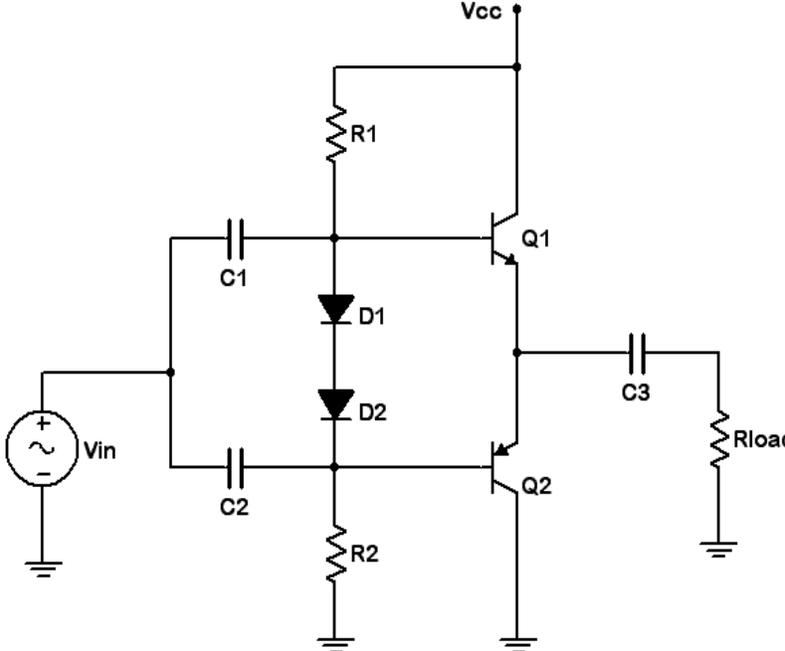
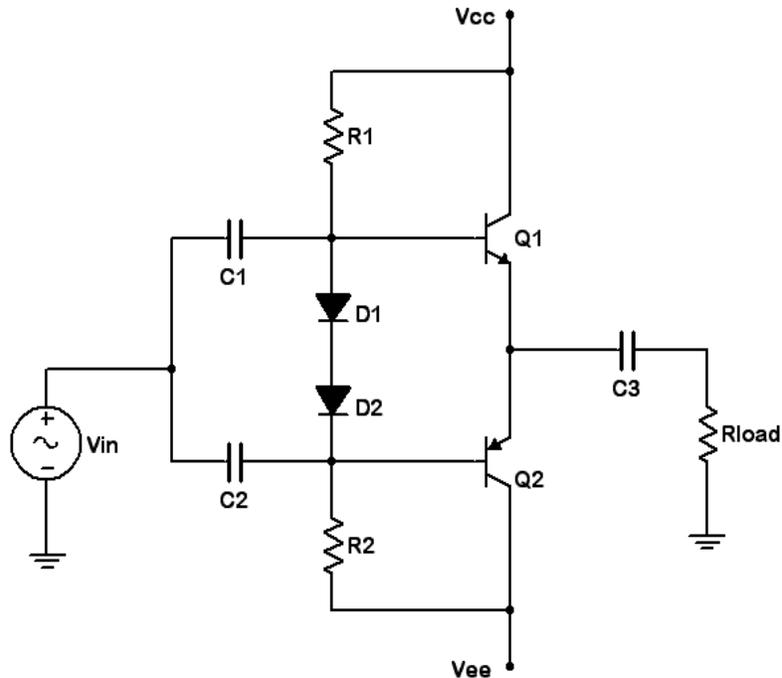

Figure 2
Figure 3
5. Replace R3 and R4 with switching diodes, as shown in Figure 2. Repeat steps 2 through 4 using this circuit and Table 2. Overall, the superior matching of the diodes to the transistors should result in decreased notch distortion.
6. Add the negative power supply so that the circuit now appears as Figure 3. Set the power supplies to  $\pm 6$  volts DC. This should produce similar bias and amplification results to the single 12 volt supply circuit of Figure 2. Although the output coupling capacitor is no longer needed (one advantage of the dual supply topology), leave it in for safety sake.